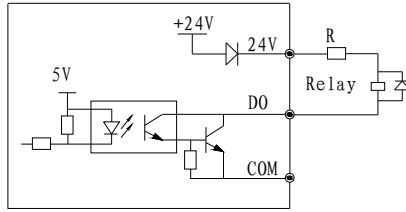

Fig. 2-22 On-off output connection mode 1 of multi-function output terminals
1) Multi-function output terminals DO as discrete output can use the internal 24V power supply of inverter and the wiring method is shown in Fig. 2-22.